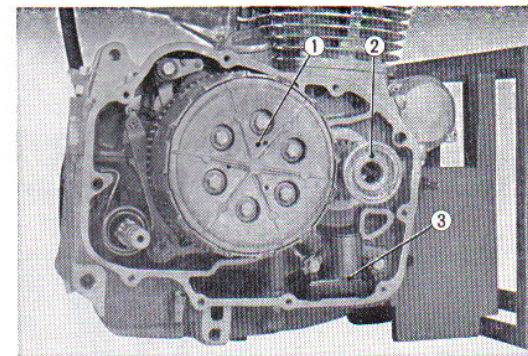

Fig. 3.74
3. Remove the mounting screws and disassemble crankcase cover. (Fig. 3.74)